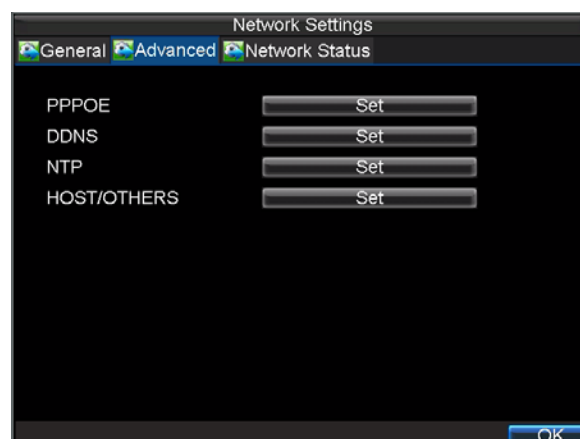

Figure 4. Advanced Network Settings
3. Select the **Advanced** tab to enter the Advanced Network Settings menu, shown in Figure 4.